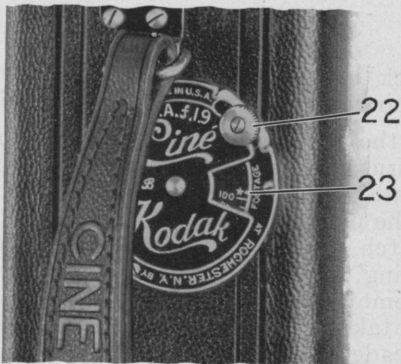

Fig. 14.
23 Pointer	Indicates how much film remains in camera, Fig. 14, page 18.
The footage indicator, Fig. 14, automatically gives the number of feet of unexposed film there are in the camera. It must be adjusted for each roll of film.
To start the motor after the spring is wound, press the exposure lever 25, Fig. 15, page 19, about half way. To stop the motor release the pressure. Let the motor run until the 100 mark on the footage indicator (50 if a fifty-foot roll of film is used) moves to the pointer 23, Fig. 14, page 18. The camera is now ready for making pictures.
**Caution:** Before removing the cover to unload the camera, after exposing the entire length of film, run the motor until the pointer 23 on the footage indicator (Fig. 14, page 18) is at the line marked with a dot, following the scale. This is necessary so that the exposed film on the take-up spool will be covered by the protecting end. This end is similar to the leader at the other end of the film and enables the camera to be unloaded